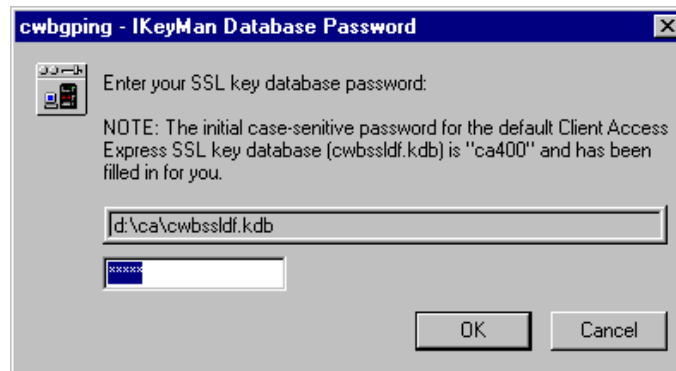

Figure 169. IKeyMan database password prompt
- d. Prompt for the PC key database password. You need to type the correct password (the default is ca400), and click **OK** (Figure 169).